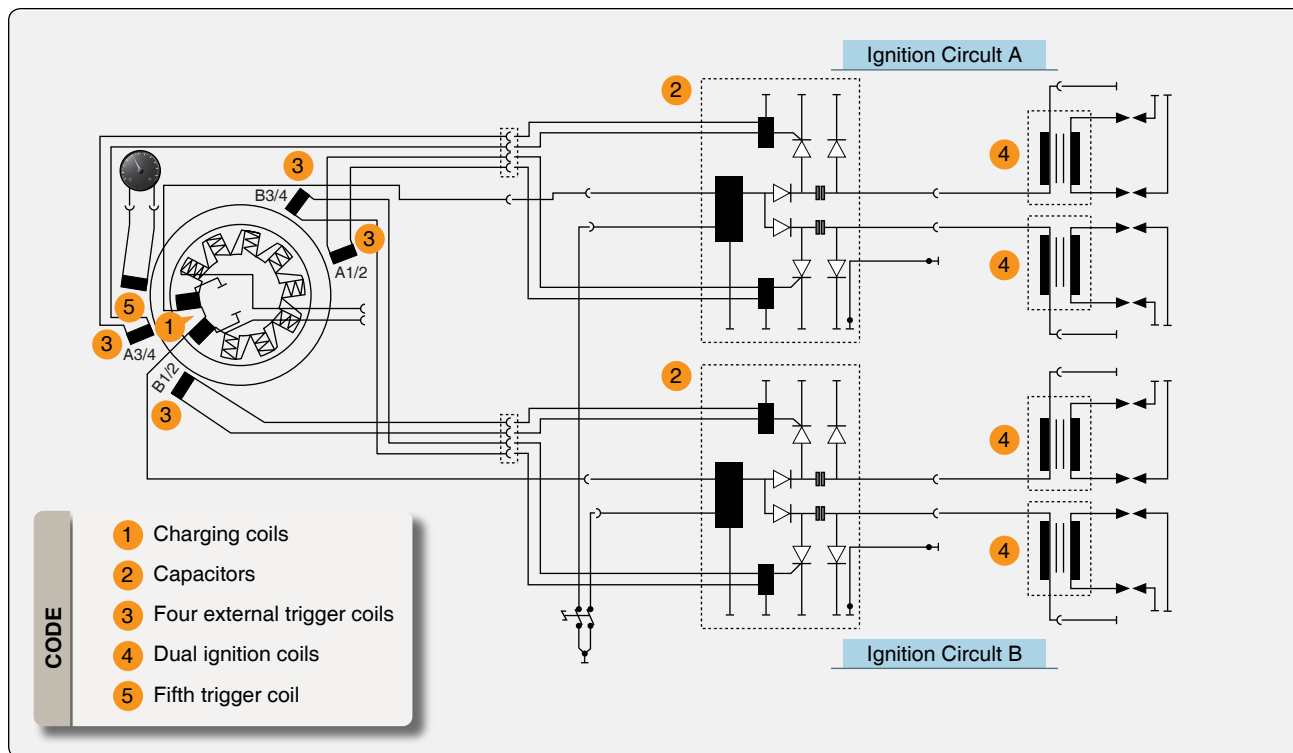

Figure 11-11. *Electric system.*
The Rotax 914 engine is equipped with a dual ignition unit that uses a breakerless, capacitor discharge design with an integrated generator. [Figure 11-11] The ignition unit is completely free of maintenance and needs no external power supply. Two independent charging coils (1) located on the generator stator supply one ignition circuit each. The energy is stored in capacitors of the electronic modules (2). At the moment of ignition, two each of the four external trigger coils (3) actuate the discharge of the capacitors via the primary circuit of the dual ignition coils (4). The firing order is as follows: 1-4-2-3. The fifth trigger coil (5) is used to provide the revolution counter signal.